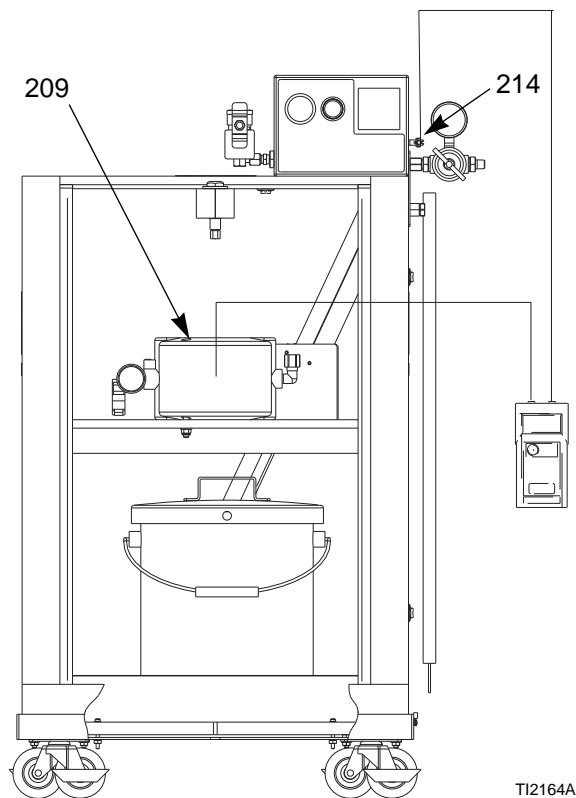

Fig. 24. Test Cylinder Resistance
See FIG. 24.. Remove the enclosure door. Using an ohmmeter, measure the resistance from the pump (209) to the ground lug (214). Resistance must be less than 100 ohms. If greater than 100 ohms, replace the grounding cylinder.